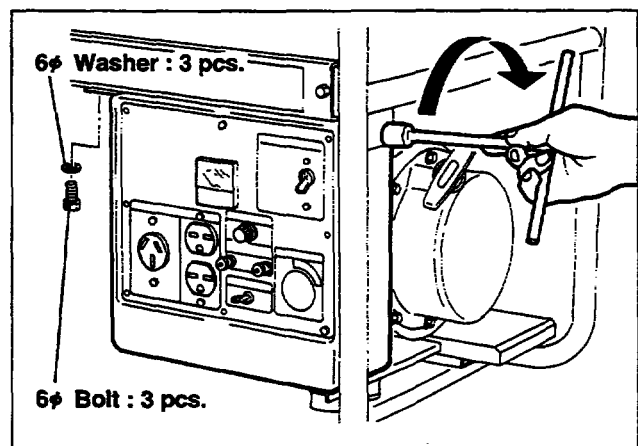

Fig. 10-42
(1) Mount the control box to the frame. (See Fig. 10-42.)